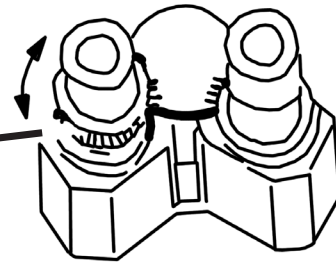

FIG. 7
- (2) Fit the binocular's to observer's sight. Observe with right eye on 40x objective, bring the specimen into focus by adjusting the coarse/fine focusing knob. The machine now will fit the sight of the observer's eyes. (shown in Fig. 7)